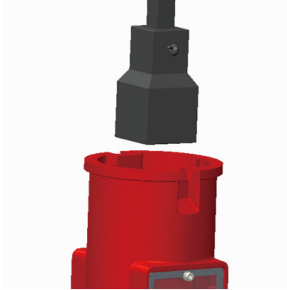

Figure 12
- 2.10 Put the stem and socket assembly into the indicator body (see Figure 12), place the socket on the square operating nut of the gate valve, and ensure that the socket and the square operating nut are engaged.